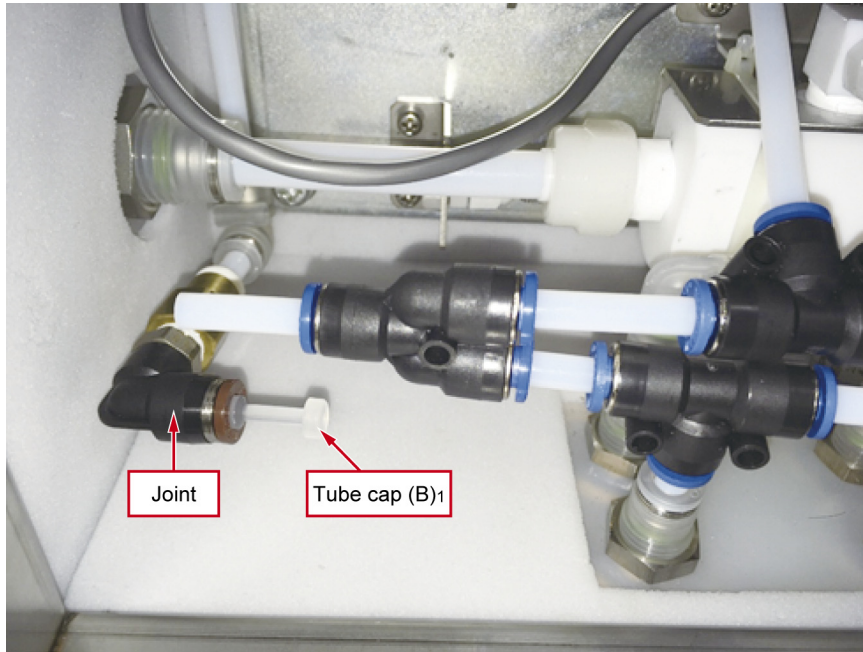

Fig. 7-9 Attach the tube cap (B)₁ to the joint
8. Insert the tube cap (B)1 into the joint and plug it as shown in Fig. 7-9. Insert until the cap will go no further.
6. Pull out the tube cap (B)1 shown in Fig. 7-9.